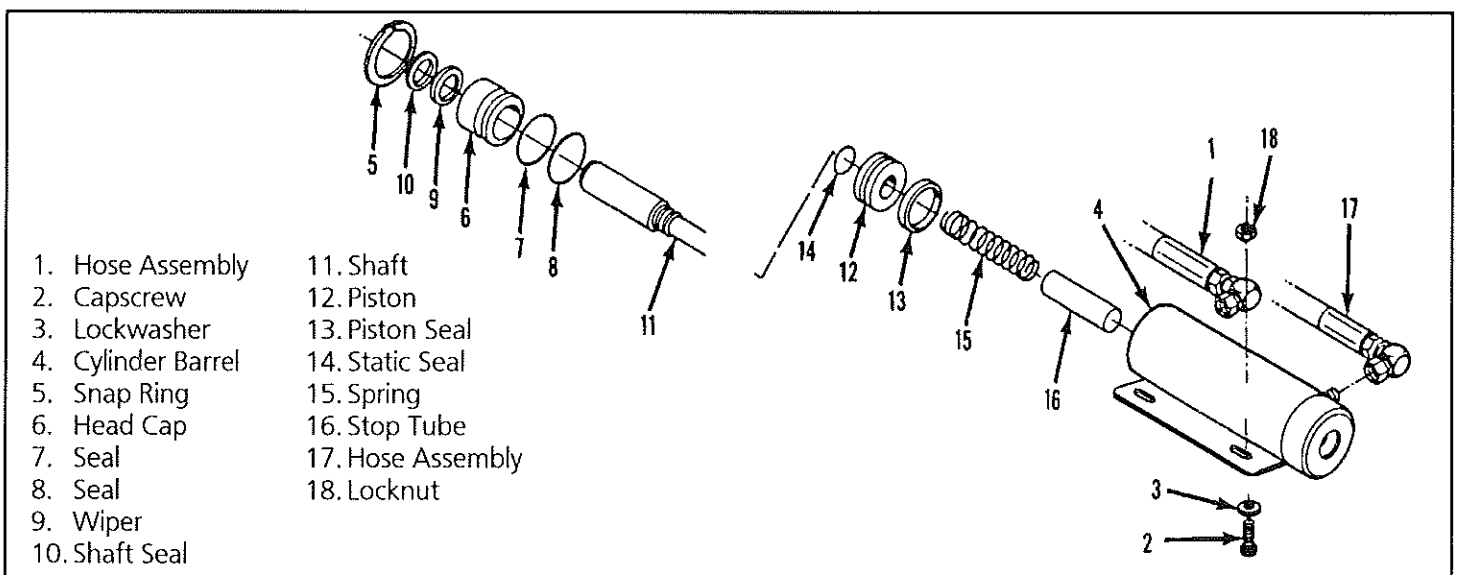

Figure 4-16: Brake Cylinder
4.11 Brake Cylinder (Figure 4-16)